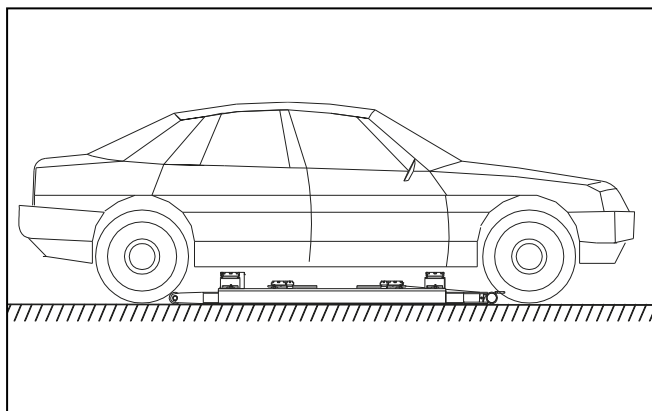

Fig. 4
- Make sure the vehicle is positioned correctly. *(Fig. 4)*